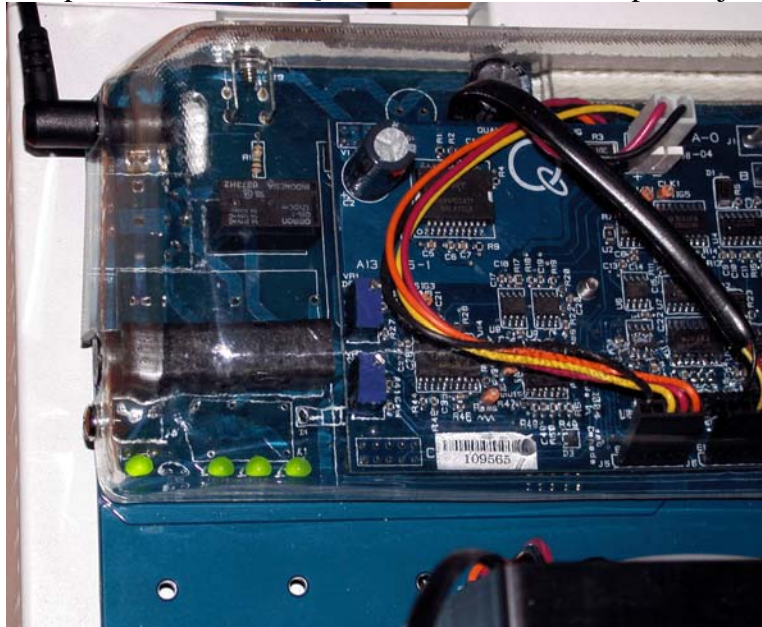

Figure 3 Module Power
- Step 5. Similarly to power the QNET module, connect the AC-DC wall transformer that was provided with the QNET module to its bulk power jack, as shown in Figure 3.
- Step 9. The *System Power* and *Communications* LEDs situated on the front panel of the NI ELVIS unit, as shown in Figure 4, should be lit. As depicted in Figure 3, verify also that the +15V, -15V, and +5V LEDs on the QNET module are lit. They indicate that the board has been properly connected to the ELVIS unit.
Step 10. Turn ON the *Prototyping Board Power* switch on the front panel of the NI ELVIS workstation. The *Prototyping Board* LED on the ELVIS front panel should turn bright green, see Figure 4, and the bulk power LED labeled as *+B* on the QNET module board should be bright green as well, as shown in Figure 3. The on-board amplifier that drives the motor is now powered.